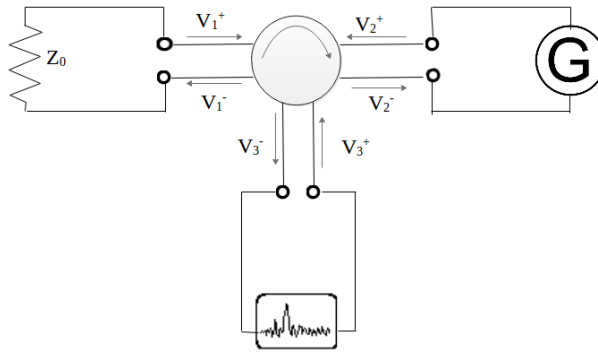

Figure 3: Set up for Insertion loss measurement at port 3
2.3 Second step: Insertion loss at port 3, Matched load(ML) at Port 1
- The set up would like figure 3.